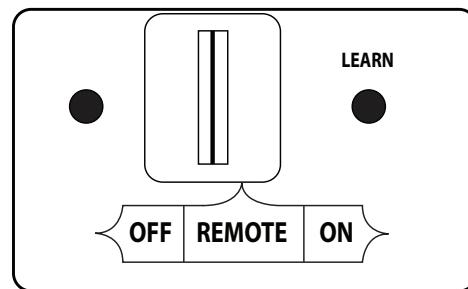

Fig. 27-2 Remote receiver (OFF for Manual Light)
- Ensure the pilot is burning. locate the 3-position switch on the remote receiver (see Fig. 27-2), and slide the switch to the **OFF** position.